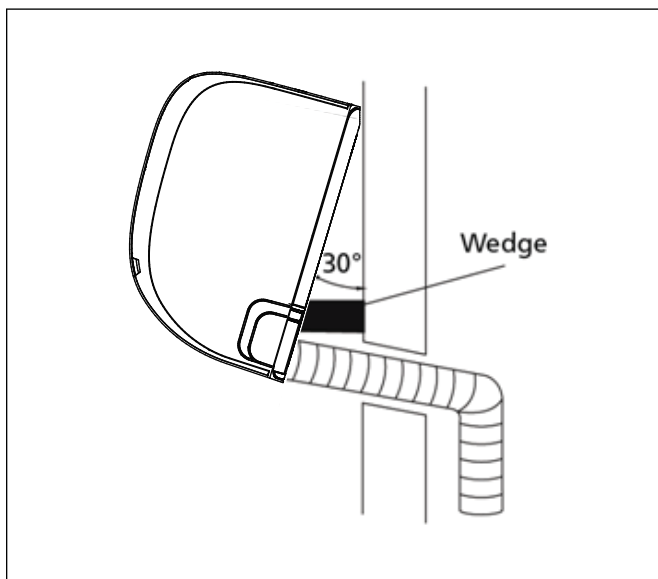

Figure 16
2. Use a bracket or wedge to prop up the unit, giving you enough room to connect the refrigerant piping, signal/power cable, and drain hose. Refer to Figure 16 for an example.